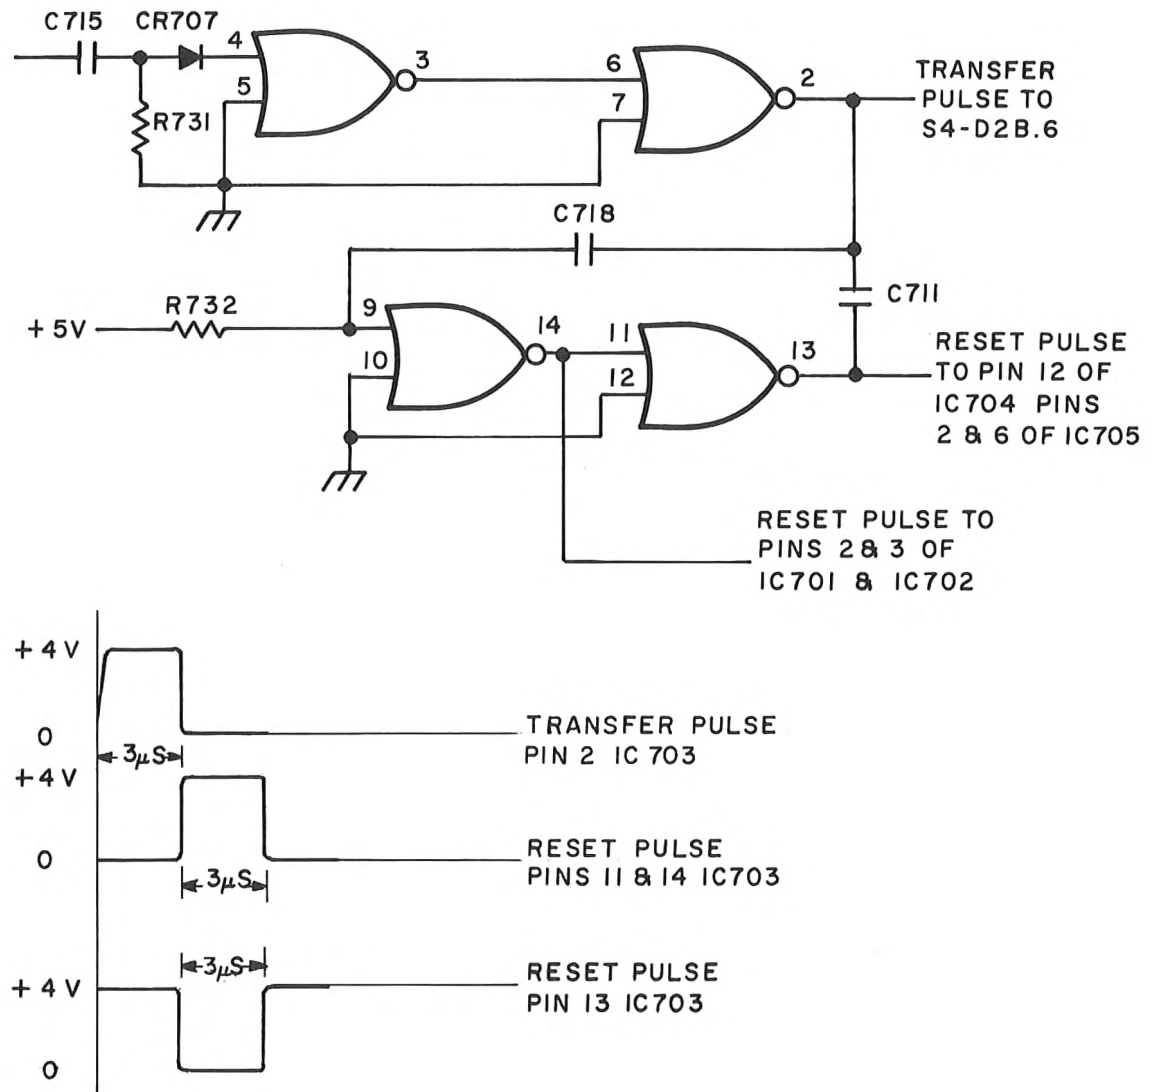

Figure 4-1 Transfer and Reset Pulse Generator.
- 4.10 During the discharge cycle, the multivibrator frequency signal continues to be counted and stored by the two decade counters, IC701 and IC702. The accumulated count is a direct function of the discharge cycle period and in turn is a function of the initial charged potential of the capacitor C706. When capacitor C706 discharges to zero, pin 10 of IC706 goes slightly negative causing pin 10 of IC707 to switch from -12 to +12 Vdc. This transition is differentiated by the RC combination R731 and C715 and the resulting differentiated pulse used to trigger the Transfer and Reset Pulse Generator, IC703. (See Fig 4-1)